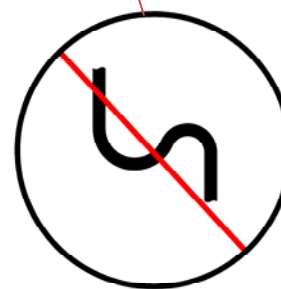

Figure 2A.
3. Heater Outlet: Install the hose between the outlet of the heater and where the coolant will be returned to the engine. The hose must be routed to have a continuous rise from the heater to the engine. See Figure 2A. **NOTE:** If isolation valves are installed, they must not increase flow restriction. Use only "full flow" type valves.